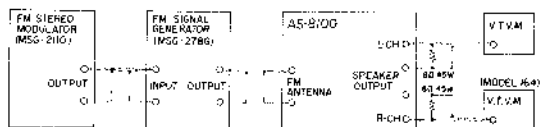

Fig. 11
7. SEPARATION ADJUSTMENT (See Fig. 11)